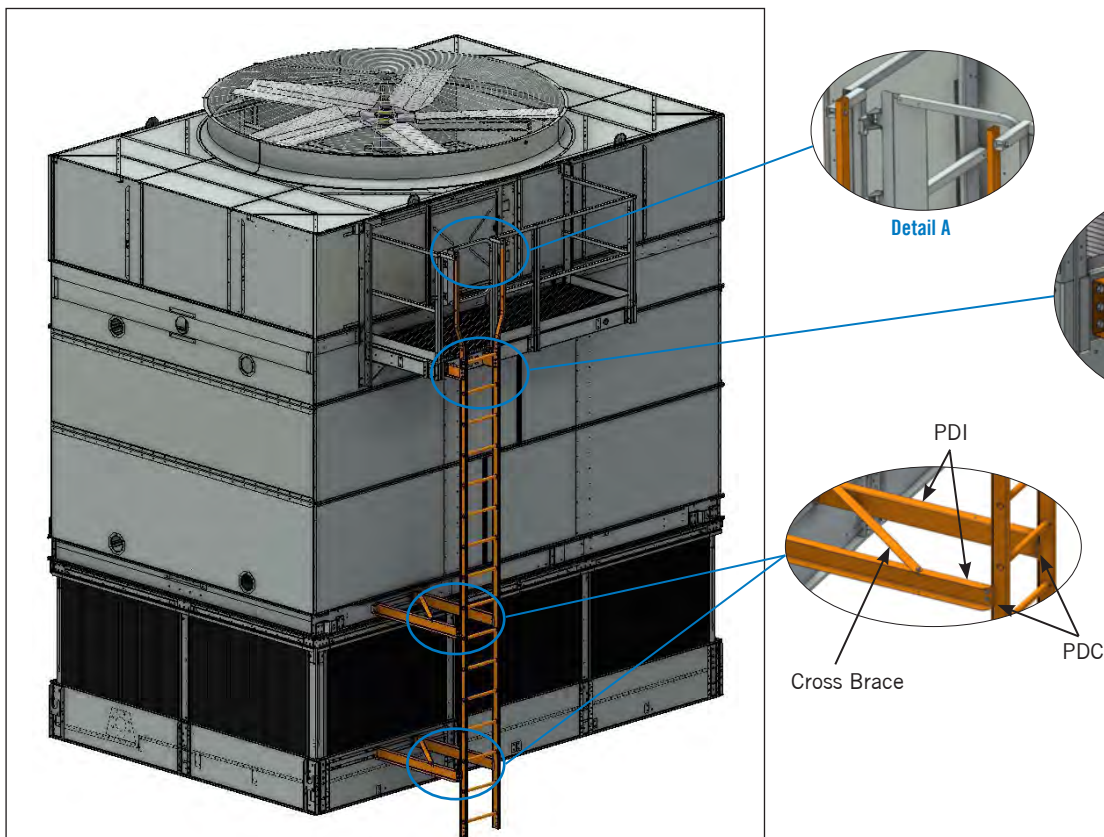

Figure 39. Mechanical Access Platform Side Ladder – All units
1. Attach the upper ladder supports LA7 to the ladder if not already installed and then attach the ladder assembly to the platform using the 3/8" x 1 1/4" bolts provided. See **Figure 39, Detail B**.
2. Secure the ladder flares to the platform railing posts using the 5/16" x 3 1/3" bolts provided. See **Figure 39, Detail A**.
3. Install the mid and lower ladder supports per **Figure 39, Detail C**, as follows: